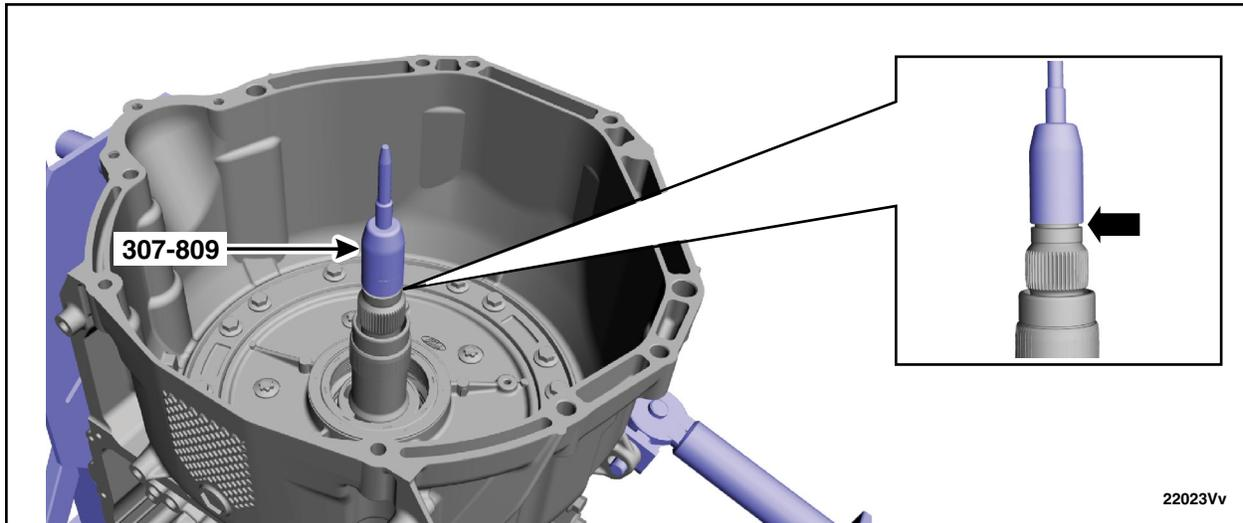

FIGURE 57
66. Install the Special Service Tool: 307-809 push & sizer, F0 Seal guide and adjust the special tool to align the bottom edge of the tool with the top edge of the bottom Teflon® seal groove. See Figure 57.